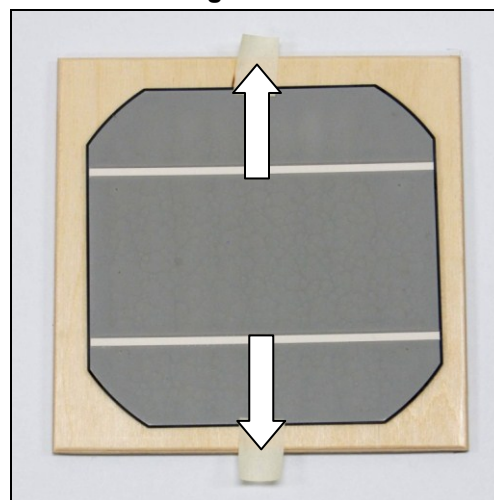
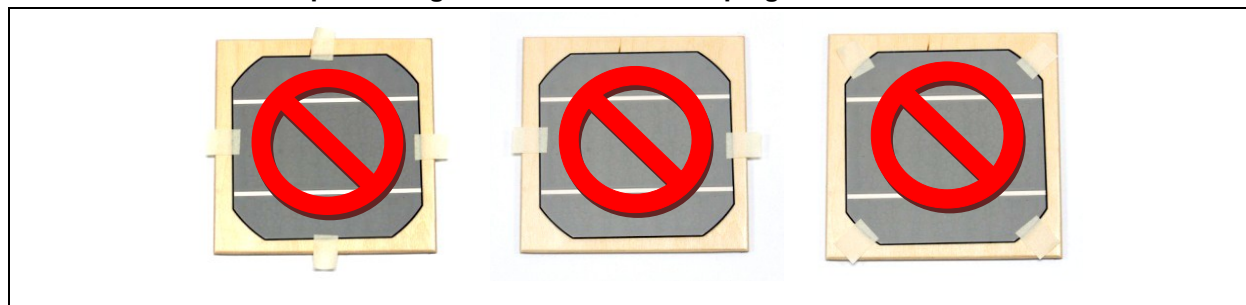

Figure 14
Figure 15
- ✓ Carefully place the first cell face down on the cell workbench. Using masking tape, attach it as shown in Figure 14. Do not burnish it to the cell too much, and do not put tape anywhere else on the cell (like the bad examples shown in Figure 15).